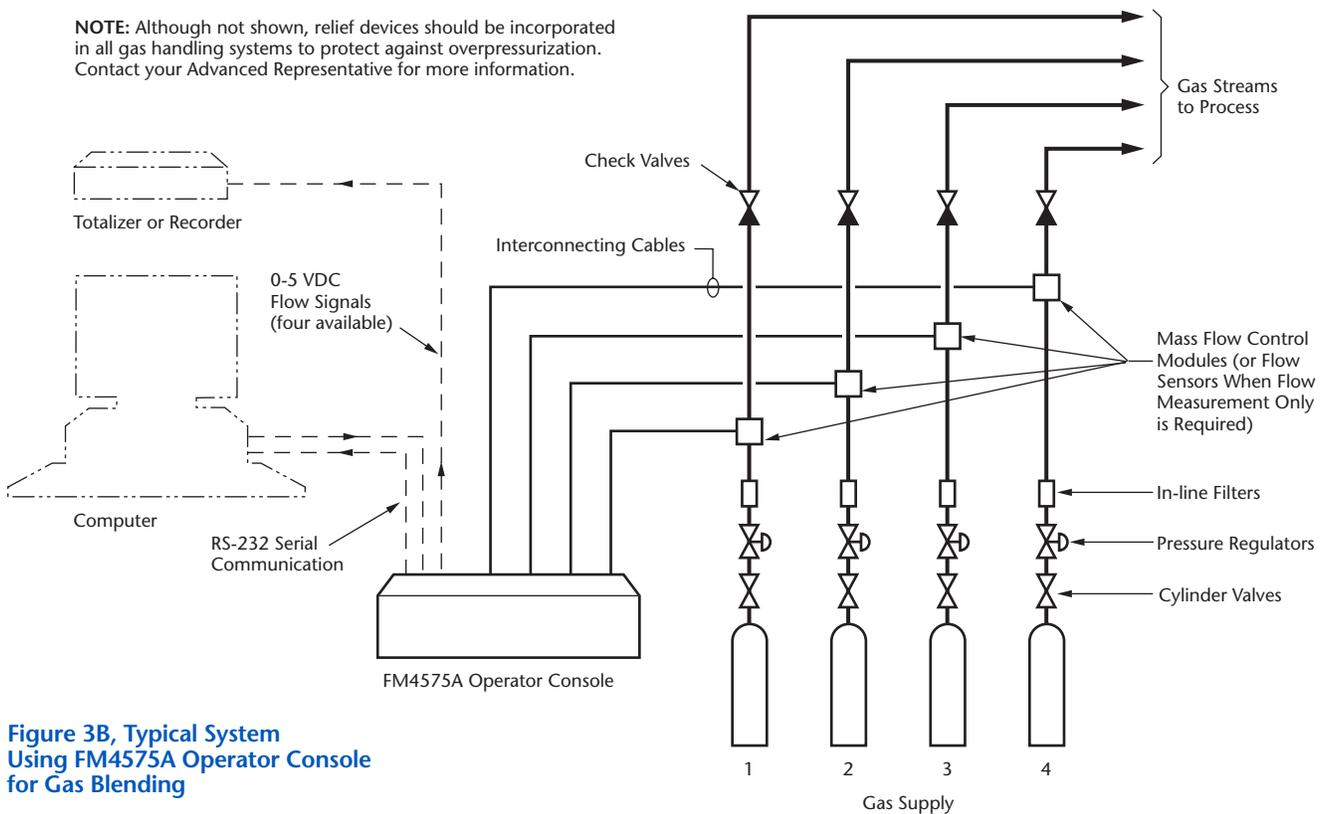

Figure 3B, Typical System Using FM4575A Operator Console for Gas Blending
- produce gas mixtures of two to four components (see Figure 3B).